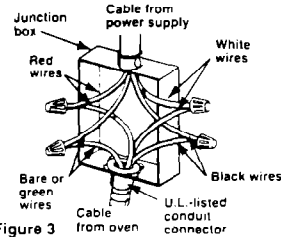

Figure 3
4. Connect the two black wires together, then connect the two red wires together. See Figure 3